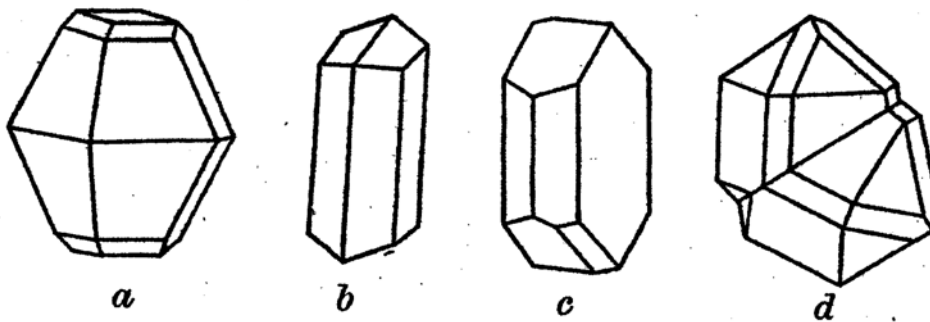

Figure 26 – Orthorhombic System
3. The Orthorhombic system has three axes of unequal length, which cross at right angles (Fig. 26, a).
4. In the Monoclinic system the two horizontal axes cross each other at right angles, while the vertical, axis is inclined to one of the other two (Fig. 26, b. No two axes are the same length.
5. In the Triclinic system no two of the three axes cross each other at right angles. The axes are of unequal, lengths (Fig. 26, c),